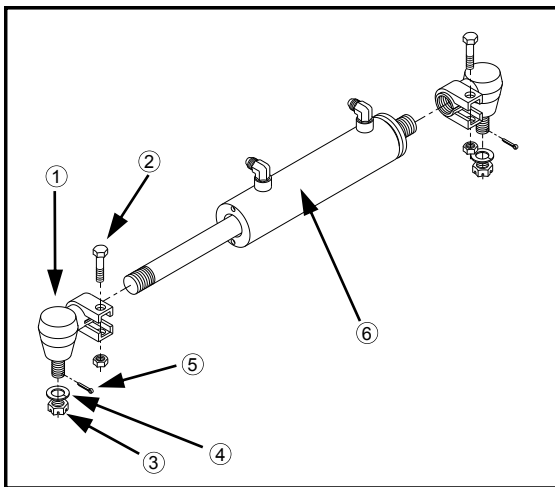

FIG 7.52
1. Remove cotter pin (fig. 7.52, item 5), castle nut (fig. 7.52, item 3), and lock washer (fig. 7.52, item 4).
2. Loosen lock collar bolt and nut (fig. 7.52, item 2).
3. Lightly tap swivel assembly (fig. 7.52, item 1) out of steering arm.
5. Screw swivel assembly in or out on steering cylinder (fig 7.52, item 6) until the treaded part lines up with steering arm.